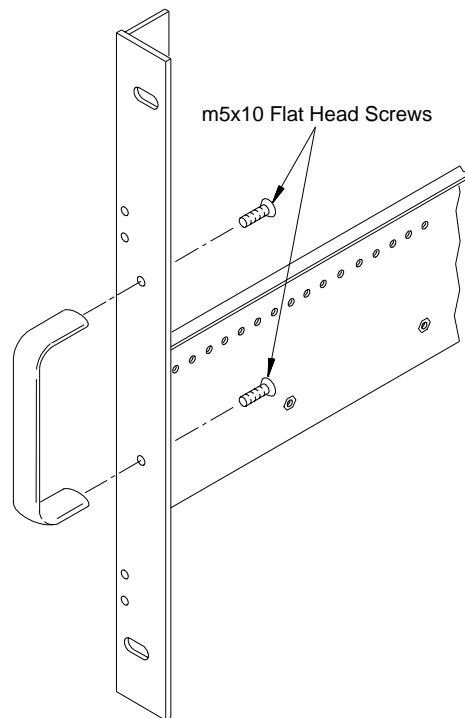

Figure B-1. Attaching Handles to the Adapters (Option 923 - kit p/n E8400-80923).
1. Attach the handles to the adapters using the m5x10 flat head screws (Figure B-1). Handles are included only with the HP E840xA Standard adapters (Option 923).